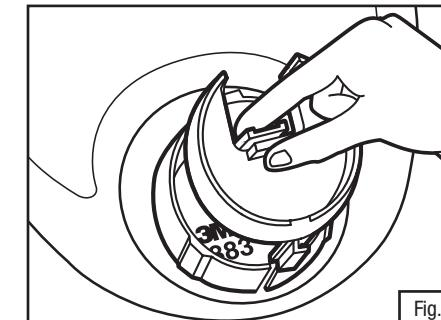

Fig. 1
1. Squeeze the locking tab at the back of the air director 6881 and pull back to disengage from the DIN port base 6883 (Fig. 1).
4. Align the lug at the bottom of the air director 6881 with the slot at the bottom of the DIN port base 6883 (Fig. 1). Slide forward and press the center knob until the locking tab clicks into place.
1. DIN Port (6884) and Pressure Demand (6874) adapter assemblies only: Squeeze the locking tab at the back of the 6881 Air Director and pull back to disengage from the 6883 DIN port base (Fig. 1).